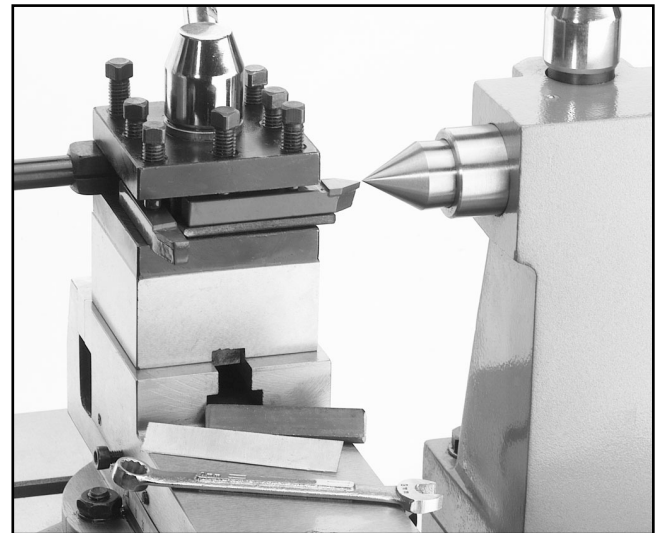

Figure 10. Using a center to check tool bit height.
- Make sure the top of the tool bit is at the lathe spindle center line or just below. The tailstock center can be used as in **Figure 10**.